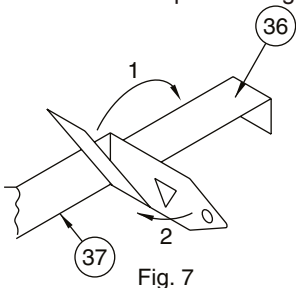

Fig. 7
1. Attach one Furring Channel Bracket (36) to each Hanger Bar (37) as shown in Fig. 7 and 8. CAUTION: Maintain a firm hold on Luminaire until Steps 2 and 3 are complete.